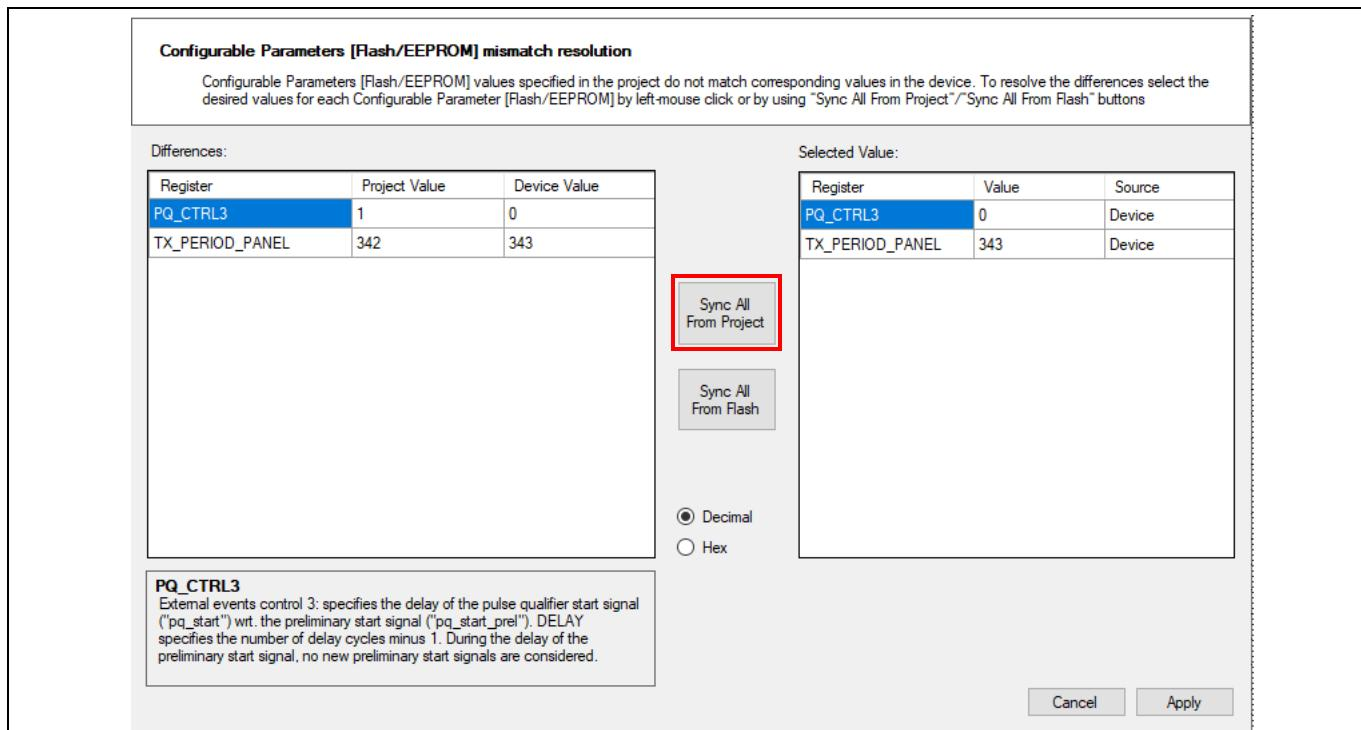

Figure 12 Sync All From Project window
The window in **Figure 12** does not appear if the values stored in the device's flash are the same as the values in the TTHe configurable registers window. The Sync All From Project procedure will work only if the FW version is same. For a different FW version, user must Bootload to resolve the difference.
- If the pop-up window shown in **Figure 12** appears, click on **Sync All From Project**; then, click **Apply**. This ensures that the firmware on the flash is in accordance with the TTHe's TSG6_XL_GC6_CYAT81688-100AS77_EVK project. When you click **Apply**, TTHe starts writing the contents to the flash and its progress is shown in the pop-up window. Click the **Close** button when complete.